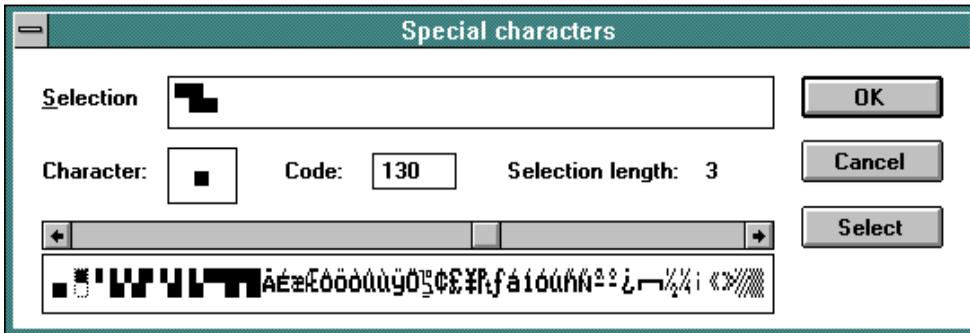

Figure 3-4
4. Special characters may be added to the message by clicking on the *Spec chars* button. This will bring up a dialog box (shown below in Figure 3-4) in which the user can select the character(s) to be used by double clicking on them or by single clicking on them and pressing *Select*. After confirming the operation, the characters will appear in the last position the cursor was in before entering the special characters dialog box.